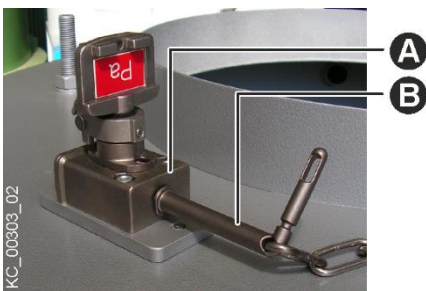

Fig. 43: Lock on the dust hood
- Open the lock (Fig. 43/A) on the machine with the key and remove the bolt (Fig. 43/B).